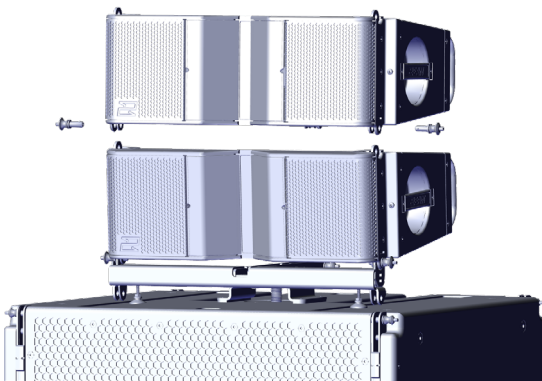

Figure 18
- Place the next module on top of the first NT206L and pin the front locations using the pins on the first cabinet (Figure 18).